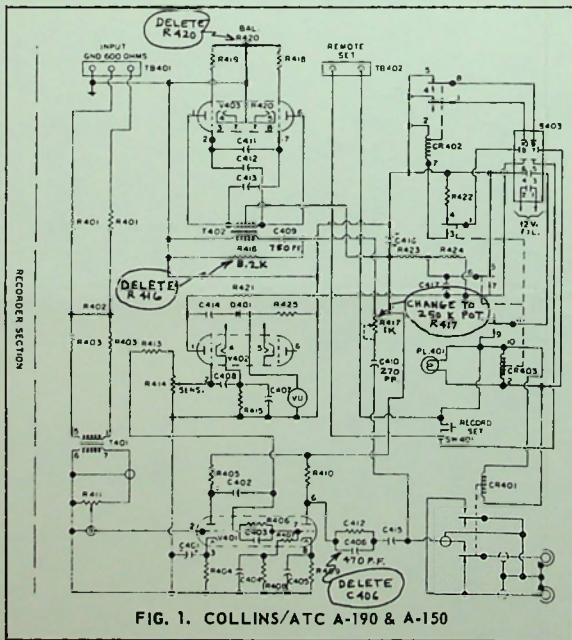

FIG. 1. COLLINS/ATC A-190 & A-150
1. **A-190 and A-150 recording amplifiers.** (See Fig. 1) This type is recognizable by the push-pull bias oscillator circuit. Perform the following steps: